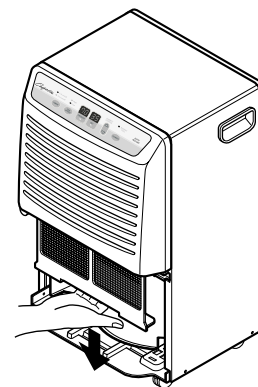

Figure 9
4. Pull out the air filter. (See Figure 9)